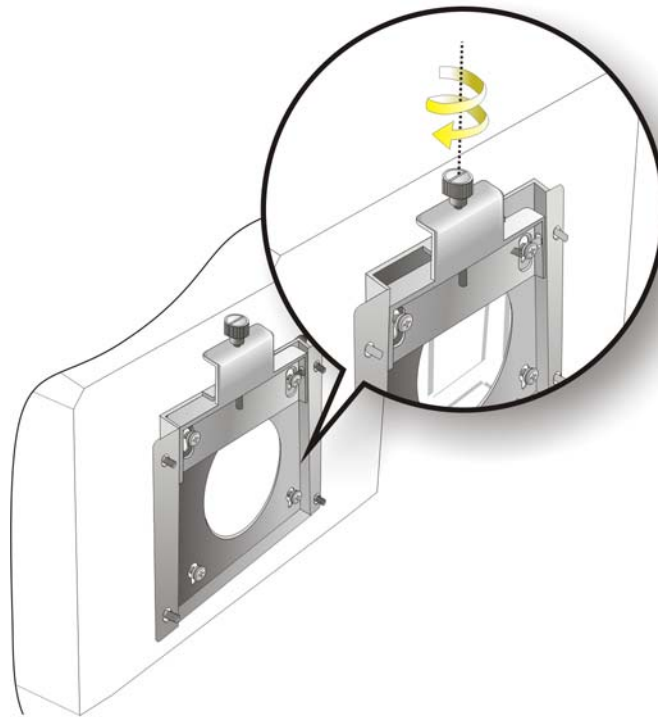

Figure 3-15: Securing the Panel PC
Step 9: Secure the panel PC by fastening the retention screw of the wall-mounting bracket. (Figure 3-15).